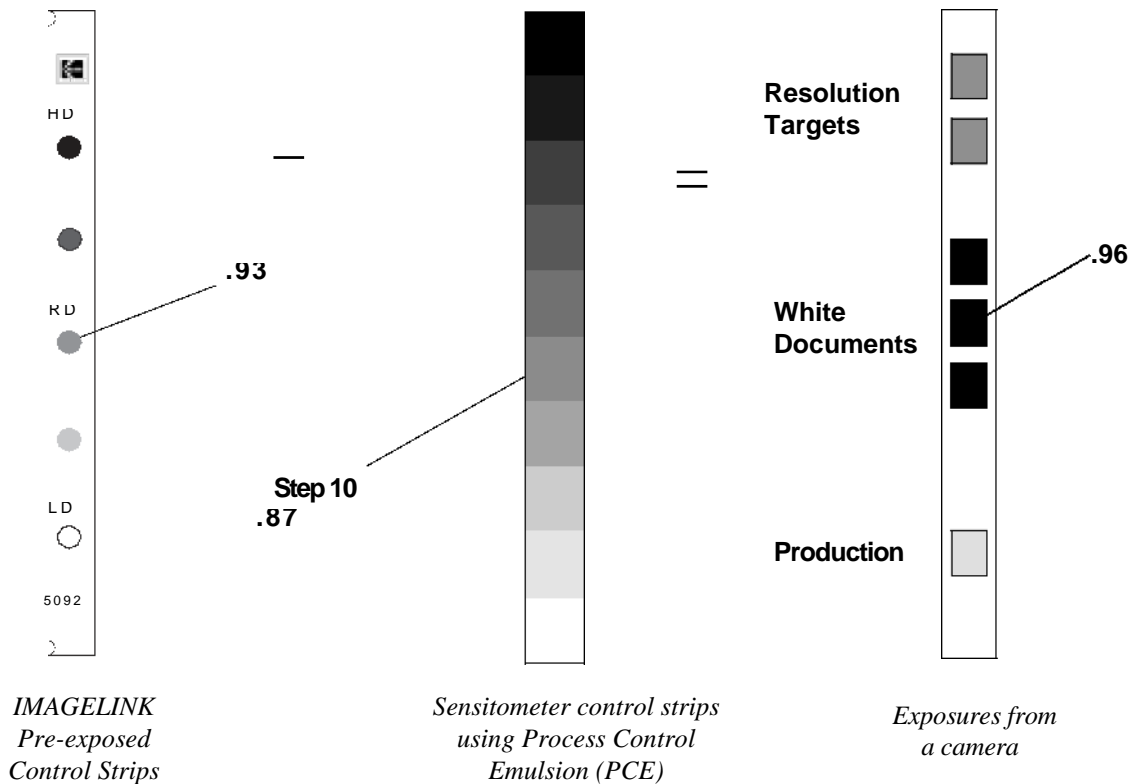

Figure 2: Daily process control aim examples
4. Process 5 pre-exposed control strips, a camera exposure step test, consisting of resolution test targets, white paper and samples of production documents. Refer to Figure 2 on page 5.